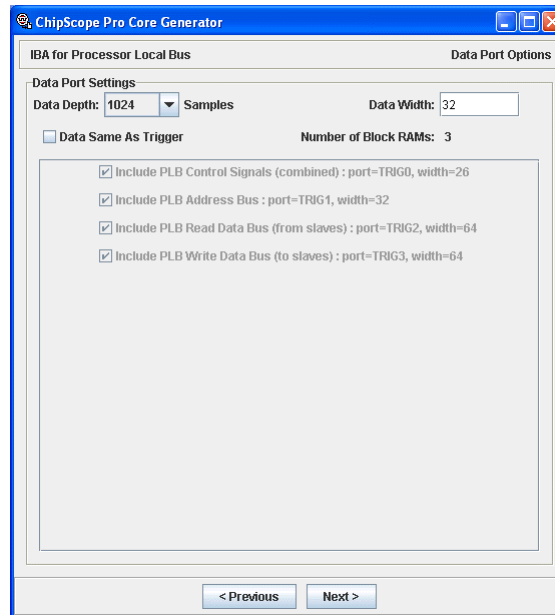

Figure 2-29: IBA/PLB Core Data Port Options
After you have set up the IBA/PLB core trigger port options, click **Next**. This takes you to the fourth screen in the Core Generator that is used to set up the of the IBA/PLB core data port options Figure 2-29.
- **Data Separate from Trigger (Figure 2-29, page 2-52)**